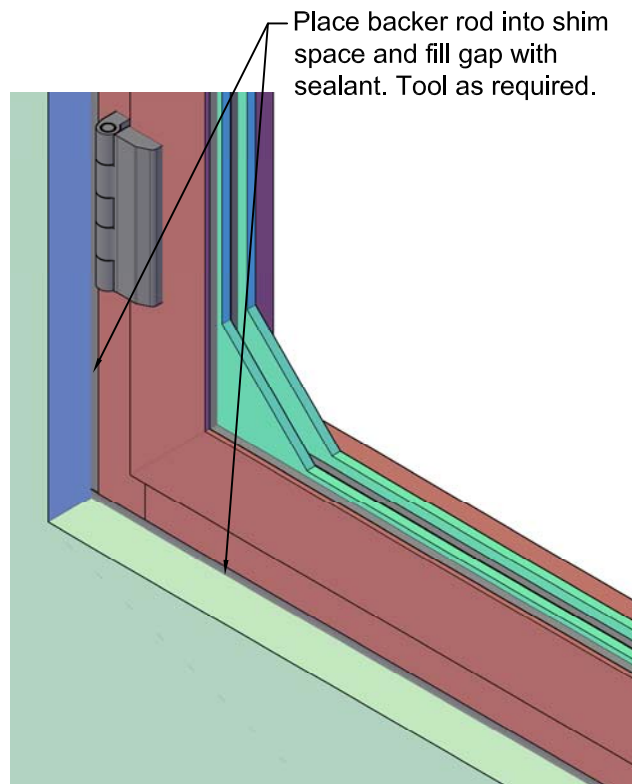

Fig. 6 - Viewed from Building Exterior
6) On the Building Exterior, place foam backer rod between the condition and the windows to act as bond breaker and limit the amount of sealant pumped into the joint. Lay a continuous bead of sealant along the entire exterior perimeter joint. Tool sealant as required. - Refer to sealant manufacturer's instructions. See Fig. 6